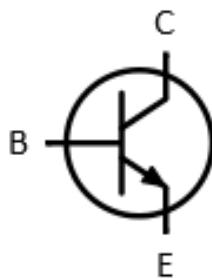

FIGURE 3-9: NPN BJT Symbol
In order to understand how phototransistors work, we will first look at a regular transistor. Transistors are three terminal devices that act as linear amplifiers, or, on a basic level, as switches. In this class, we will primarily be working with Bipolar Junction Transistors, or BJTs, shown in the figure below. BJTs have three terminals labeled base (B), collector (C), and emitter (E). The direction of the arrow points in the direction of current flow. (The symbol and operation listed in Figure 3-9 is for an NPN BJT. You may work with PNP BJTs later for your project, which have a different symbol and operation.)